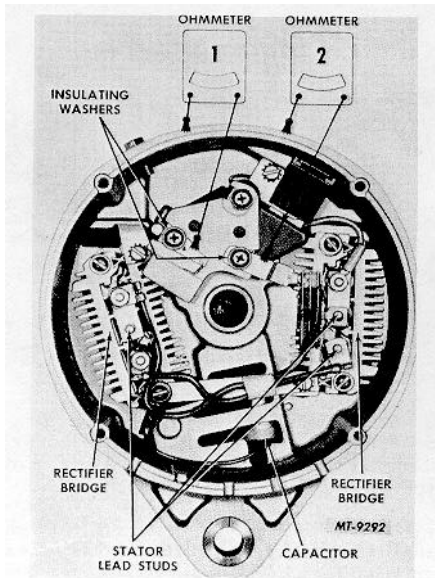

Fig. 7 End Frame View with Stator Removed
1. Connect ohmmeter having a 1-1/2 volt cell using lowest range scale from brush lead clip to end frame as shown in step 1, Fig. 7 or 8; then reverse lead connections.
3. A grounded brush lead clip can result from omission of insulating washer, Fig. 7 or 8, omission of insulating sleeve over screw, or damaged insulating sleeve. Remove screw to inspect sleeve. If satisfactory, replace regulator as covered under heading "Brush Holder and Regulator Replacement."
4. Repeat steps 1, 2 and 3 above, except connect ohmmeter as shown in step 2, Fig. 7 or 8.
5. Separate stator from end frame by removing three stator lead attaching nuts. Figs. 7 and 8 show end frame with stator removed.